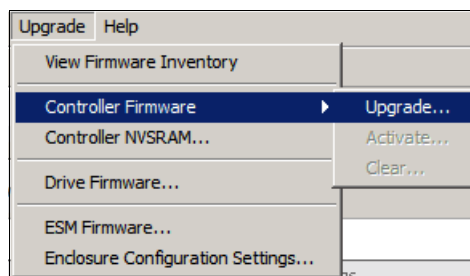

Figure 14-31 Upgrade menu
After you have updated your hosts (as described in 14.2.3, “Updating the host” on page 427), you can update the code of your storage subsystem. To do this, click **Upgrade** → **Controller Firmware** → **Upgrade...**, as shown in Figure 14-31.
1. To update the controller firmware by using the DS Storage Manager, click **Upgrade...**, as shown in Figure 14-31.